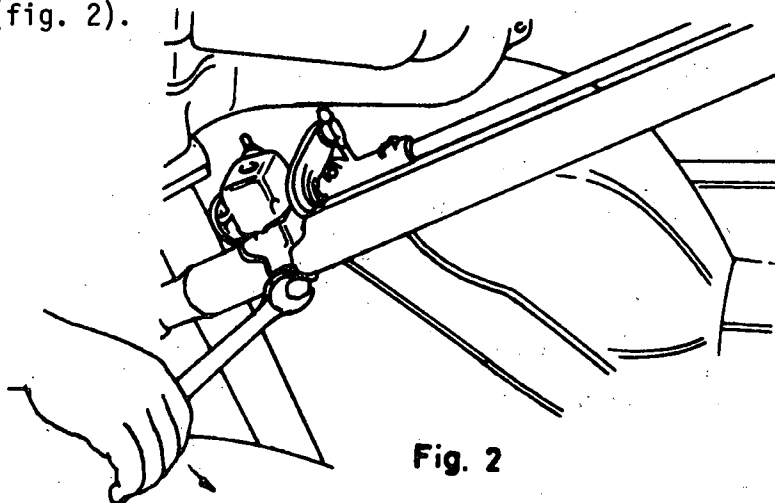

Fig. 2
- c) Remove the screws from the bracket of the gear selector box (fig. 2).